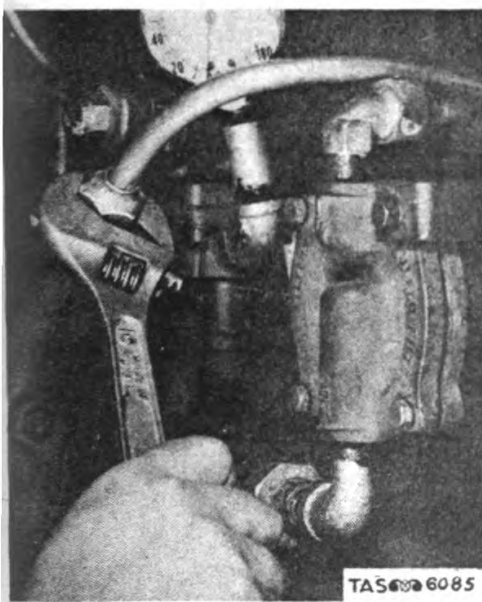

Fig. 85. Loosening Adapter Nut and Elbow and Disconnecting Return Line Near Top of Pressure Regulating Valve.
1. Loosen adapter nut and elbow and disconnect return line near top of pressure regulating valve. (See fig. 85.)